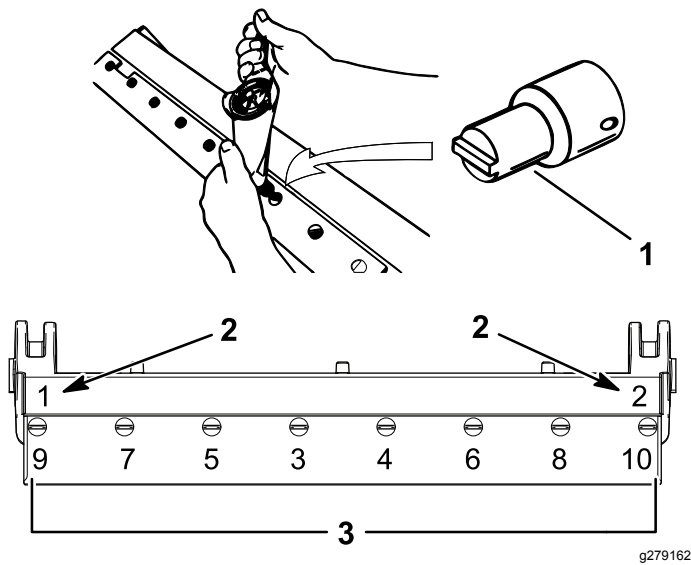

Figure 34
- A. Torque the 2 outer screws to 1 N·m (10 in-lb); refer to Figure 34.
- B. Working from the center of the bedknife, torque the screws to 23 to 28 N·m (200 to 250 in-lb); refer to Figure 34.